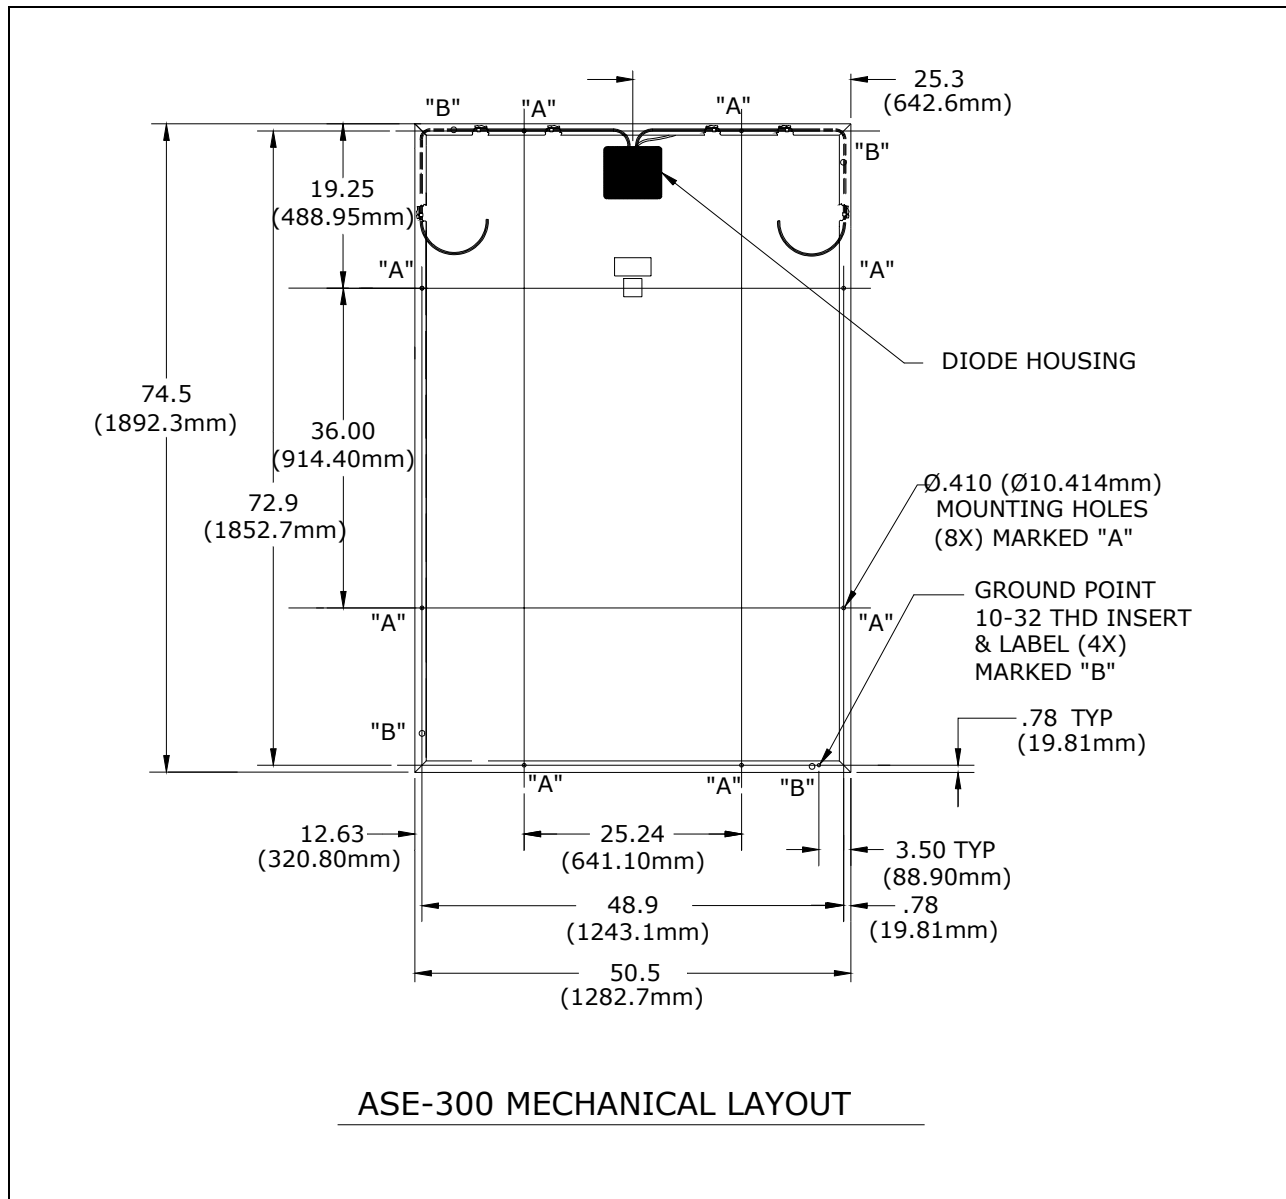

Figure 1 - ASE-300-DGF/50 Mechanical Layout
The ASE-300-DG/50 module has 8 mounting holes. Four (4) holes are provided on the two long back flanges and four (4) additional holes are provided on the two short back flanges (See Figure 1).